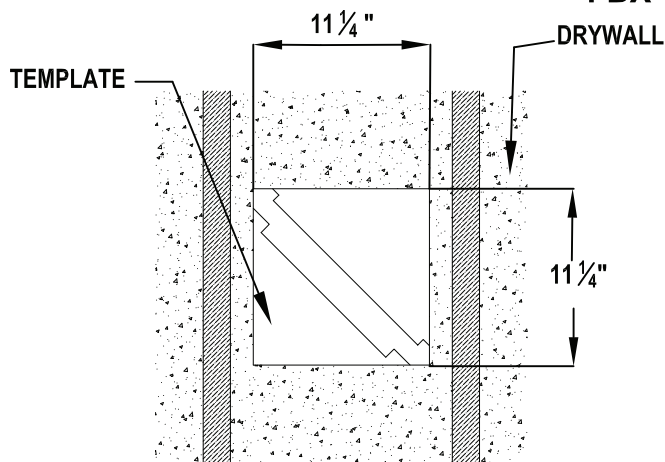

FIGURE 1
1. CUT OUT OUTSIDE SQUARE OF CARDBOARD TEMPLATE LOCATED ON LUMINAIRE BOX. USE TEMPLATE FOR CUTTING LUMINAIRE OPENING IN DESIRED LOCATION BETWEEN STUDS IN DRYWALL. (FIGURE 1)